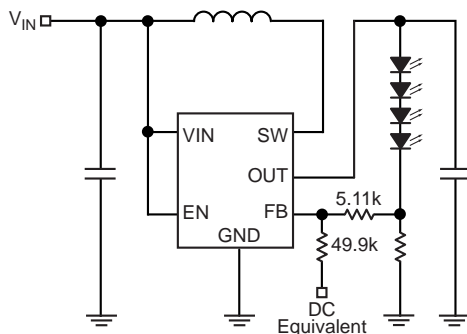

Figure 2. Continuous Dimming
2. Continuous dimming control is implemented by applying a DC control voltage to the FB pin of the MIC2289 through a series resistor as shown in Figure 2. The LED current is decreased proportionally with the amplitude of the control voltage. The LED intensity (current) can be dynamically varied applying a DC voltage to the FB pin. The DC voltage can come from a DAC signal, or a filtered PWM signal. The advantage of this approach is a high frequency PWM signal (>10KHz) can be used to control LED intensity.